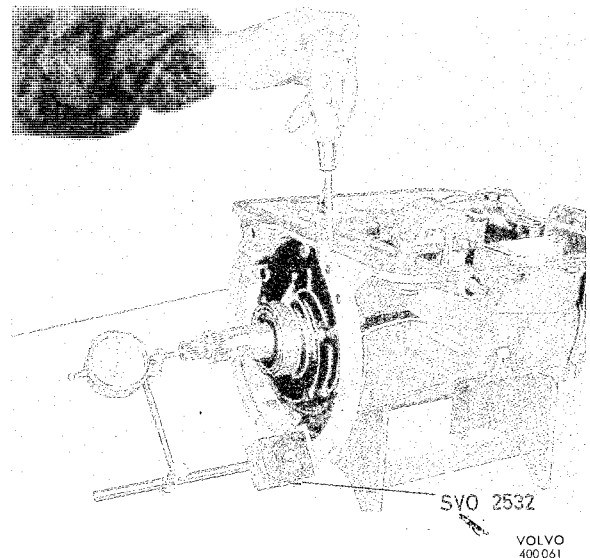

Fig. 4-81. End float check
21. Set up the dial indicator gauge as shown in Fig. 4-81 with plate 2532 and magnetic attachment. Place the point of the gauge against the shaft end, move the shafts and gears backwards and forwards and read off the end float. This should be 0.25–0.75 mm (0.010–0.030"). Note the amount of play.